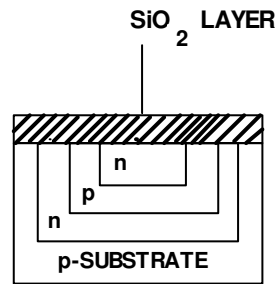

Fig.69(i) i
**Step 2.** Thereafter pure oxygen is passed over the wafer to form to complete silicon dioxide ( $\text{SiO}_2$ ) layer as shown in fig.69(i)c